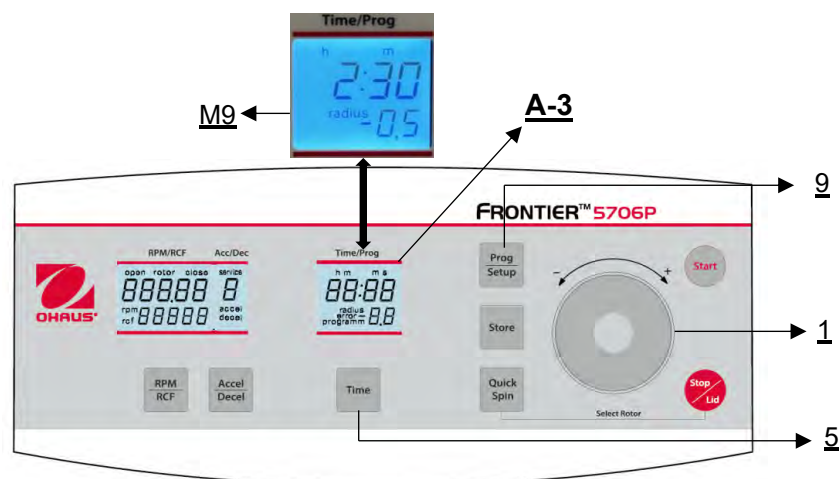

Figure 20
First, close the centrifuge lid, then press the key **"Time"** (5) and the key **"Prog/Setup"** (9) at the same time and hold them (see **Figure 20**).